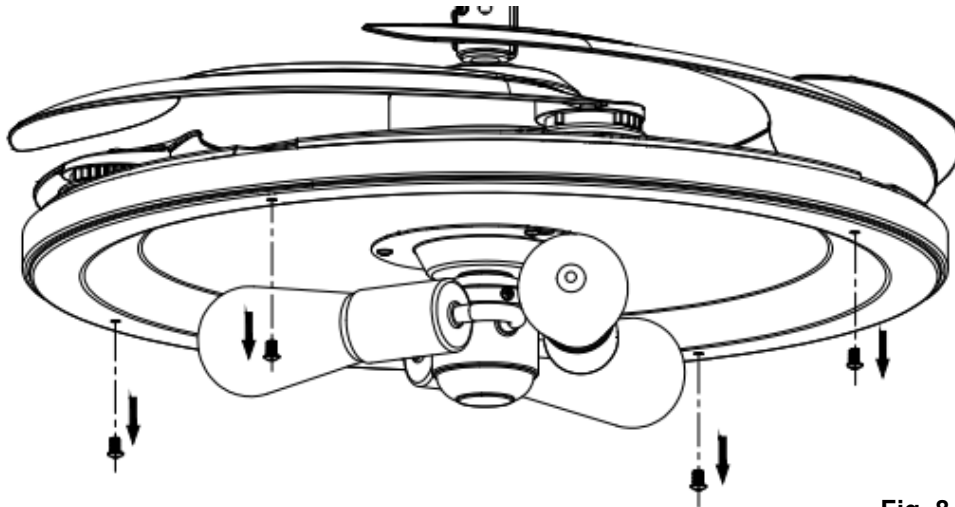

Fig. 8
5. Loosen the 4 pcs screws from the light kit bracket plate of the fan assembly. (Fig. 8)